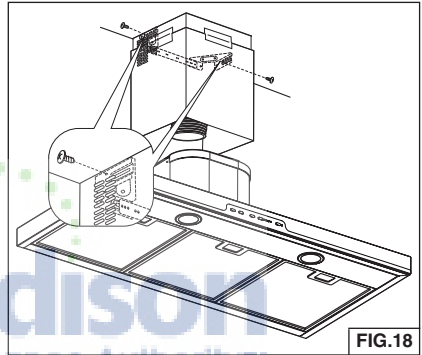

FIG.18
6. Lift the flue into position. Secure upper flue to the flue mounting bracket with (2) 3.9 x 6 mm screws. Fig. 18.